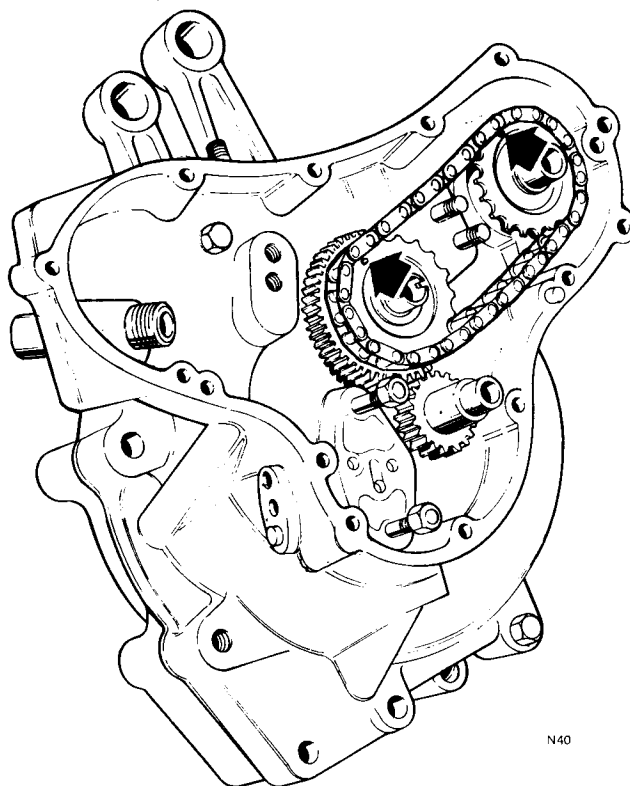

Fig. C37 Assembly of timing chain and sprockets. Note arrows
- 5 Take the intermediate gear sprocket, the camshaft sprocket and cam chain, assembling as shown in Fig. C37. For correct timing the timing marks must be 10 rollers apart on the chain as shown in the illustration.